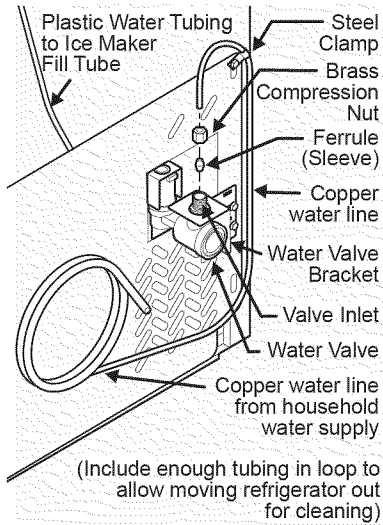

Figure 1
4. If you use copper tubing - Slide brass compression nut, then ferrule (sleeve) onto water supply line. Push water supply line into water valve inlet as far as it will go (¼ inch / 6 mm). Slide ferrule (sleeve) into valve inlet and finger tighten compression nut onto valve. Tighten another half turn with a wrench; DO NOT over-tighten. See Figure 1.